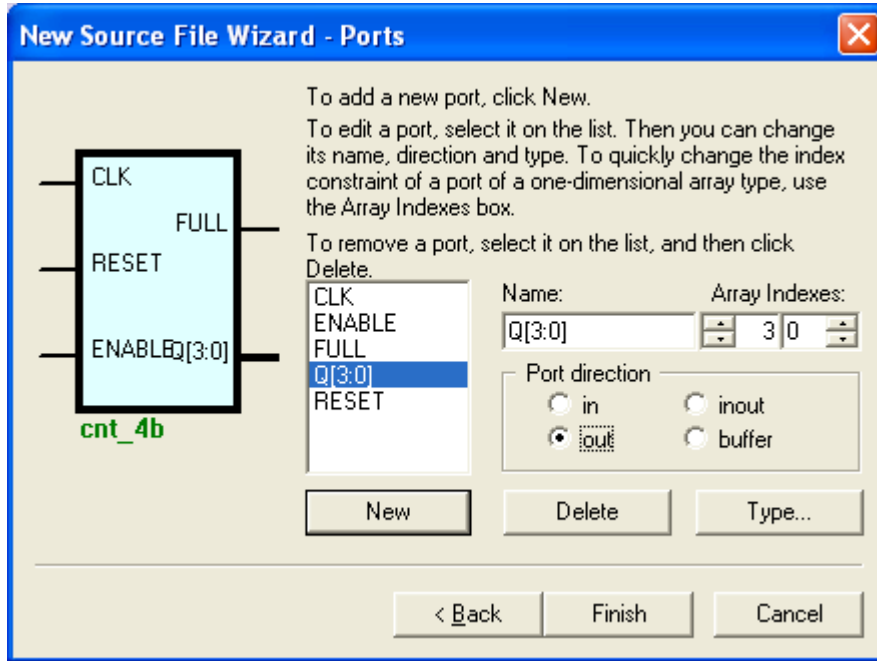

Figure 5: Ports
- Click on the "New" tab again and declare "RESET" with Port direction as "in". Similarly declare "ENABLE" as "in", FULL as "out". Finally declare "Q" as "out" and type "3" in first column of "Array Indexes" so that width of output port Q is 4-bit. Once you declare the ports the "New Source File Wizard" should look like in Figure 5. Click Finish.